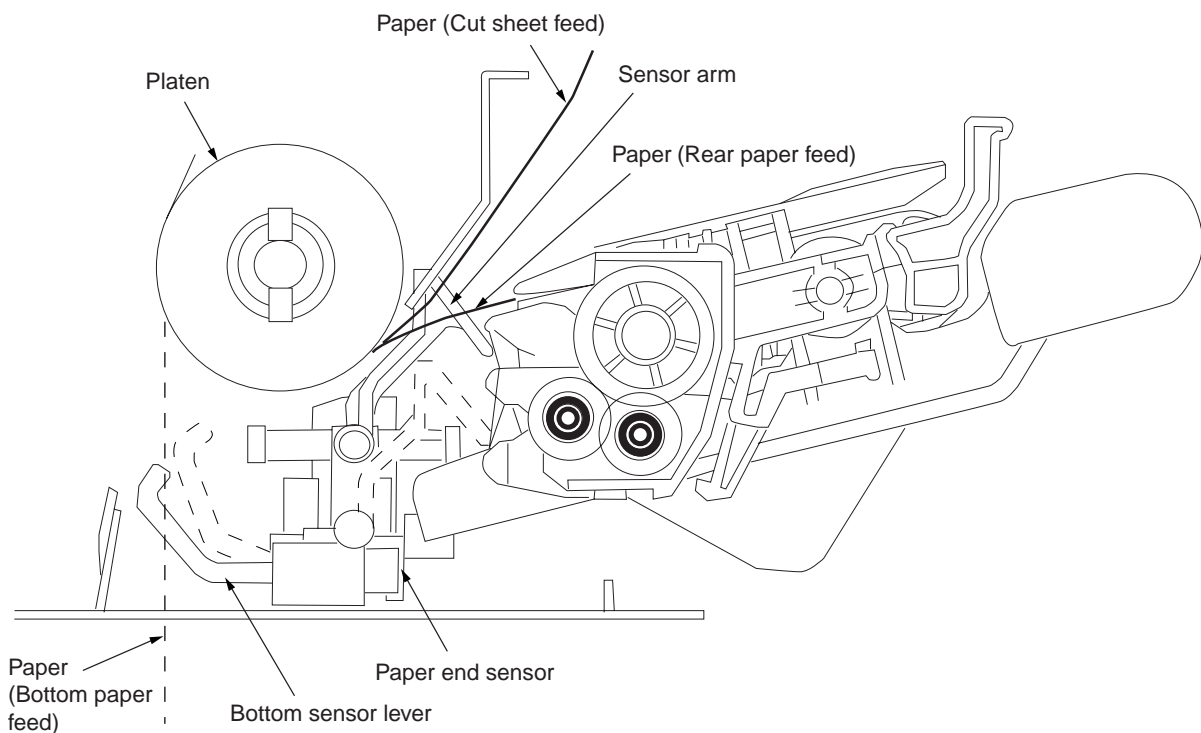

Figure 12
(2) Bottom feed detection (See Figure 12.)